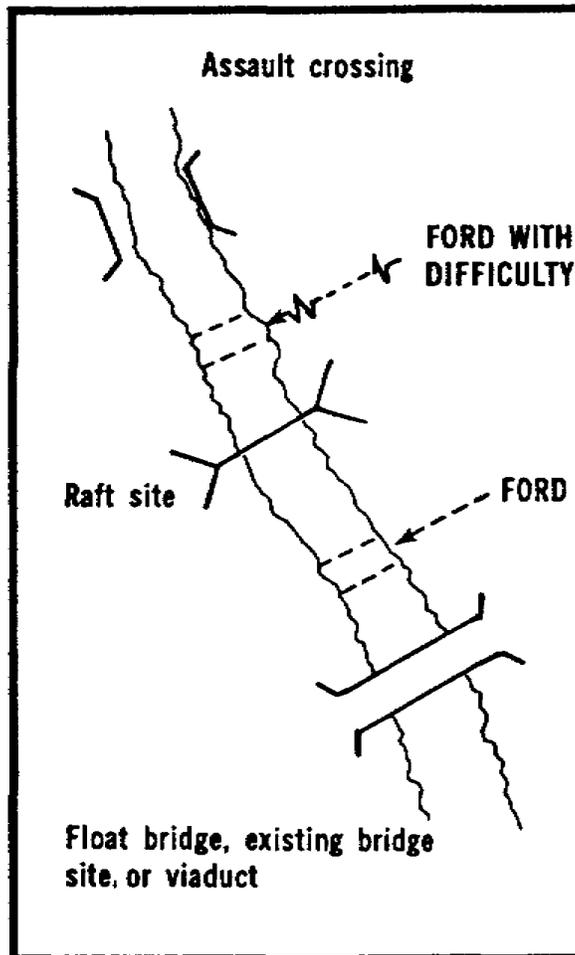

Figure 1-18. Crossing sites
c. Crossings (App B, p B-52). A crossing site is a location along a water obstacle that provides a favorable crossing point, depending on the situation and the equipment you have available. Figure 1-18 shows examples of various types of crossing sites.